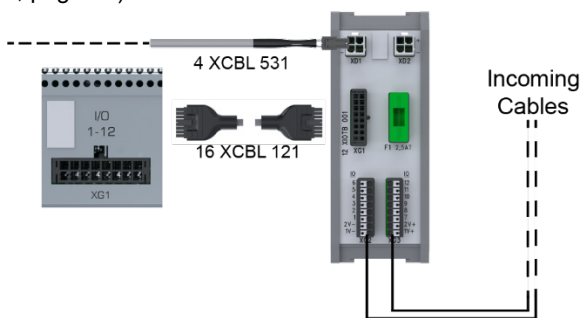

Fig. 6-1: Overview of the connection of control inputs/outputs
1. Plug the connection cable 16 XCBL 121 into the terminal ***XG1*** (I/O 1-12) on the X-Controller and into the terminal ***XG1*** on the terminal block XIOTB (→ Fig. 6-1/1 and 2).